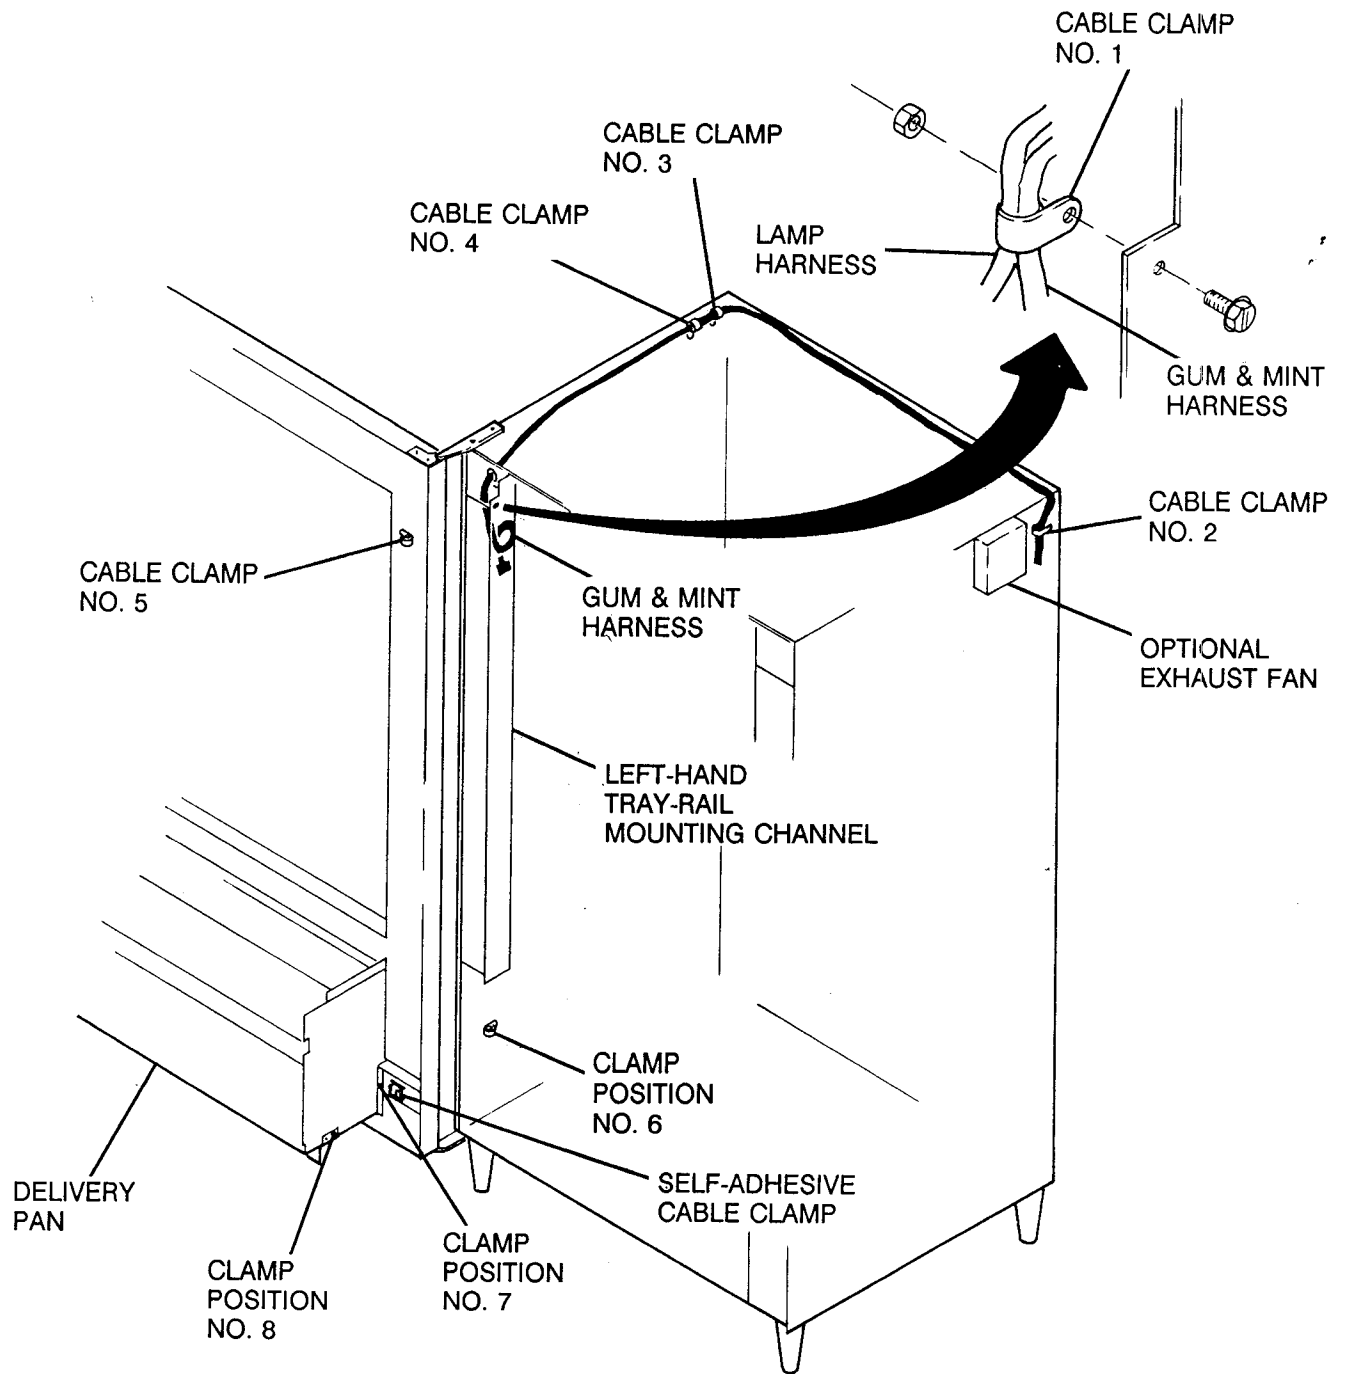

FIGURE 2. Routing the Gum & Mint Harness
Refer to Figure 2 while completing the following procedure:
4. Remove the adhesive backing from the self-adhesive cable clamp (Index 15) and press in place at position shown in Figure 2.